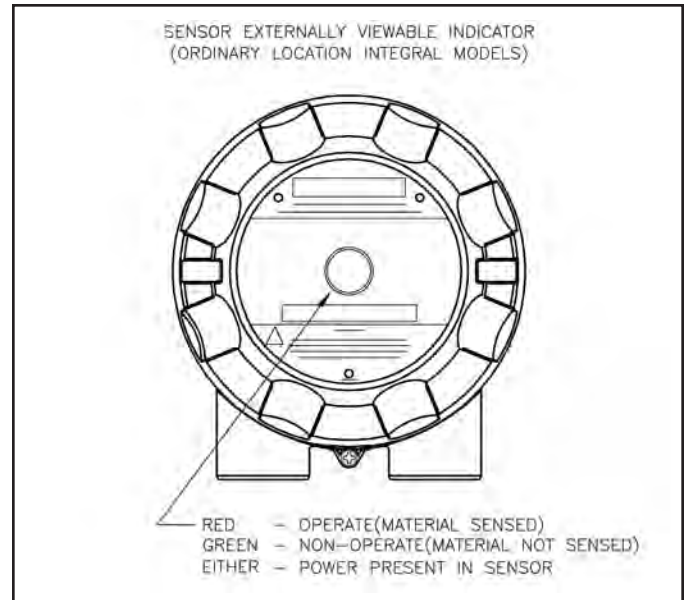

Figure 9
**Indicators:** (See Figure 9)